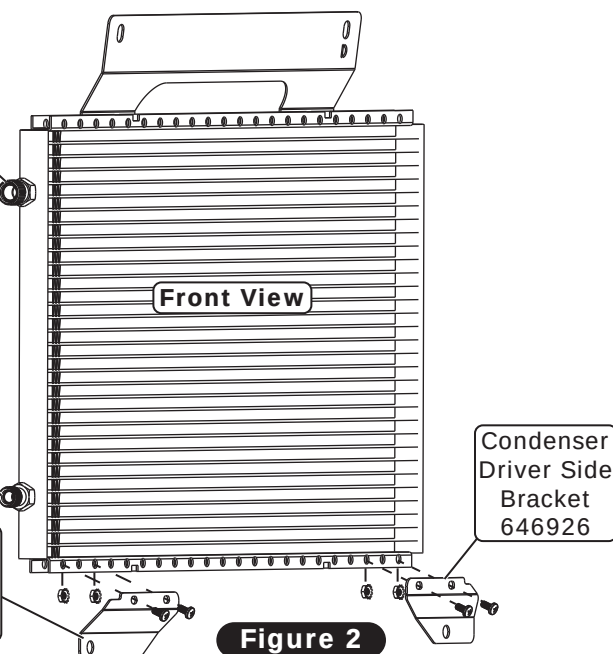

Figure 2
2. Install the condenser driver side bracket onto the front of the condenser using (2) 10-24 x 3/8" pan head screws and (2) 10-24 nuts with star washers (See Figure 2, below). **NOTE: The condenser driver side bracket mounts to the outside of the flange through the 1st and 3rd holes from the right.**
3. Install the condenser passenger side bracket onto the front of the condenser using (2) 10-24 x 3/8" pan head screws and (2) 10-24 nuts with star washers (See Figure 2, below). **NOTE: The condenser passenger side bracket mounts to the outside of the flange through the 1st and 3rd holes from the left.**